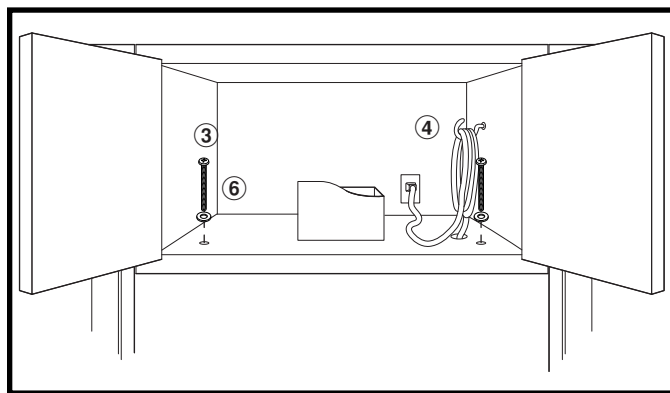

Figure 25
3. Use two Top Cabinet Screws ③ and two Flat Washers ⑥, supplied in the INSTALLATION HARDWARE, to attach the unit to the top cabinet. See Figure 25.
4. Make a bundle of the Power Supply Cord and attach it to the inside of the cabinet using the Power Cord Hanger ④. See Figure 25.